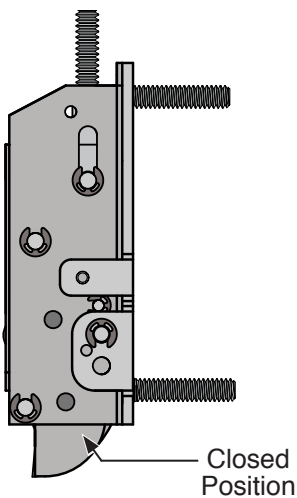

FIG. 11
1. The bottom latch must be in the closed position. (Fig. 11)